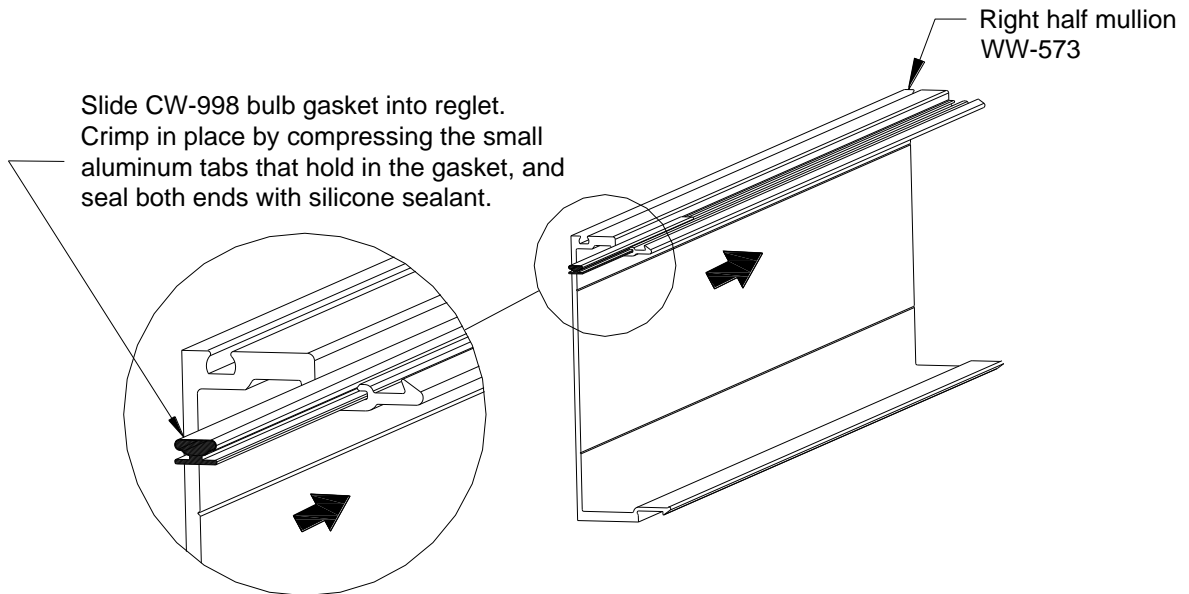

Figure 9B: CW-998 Air Seal Gasket Installation
- 5.3 Install CW-998 bulb gasket into race at center of captured mullions. Crimp ends of mullion to lock into position. **See FIGURE 9B.**